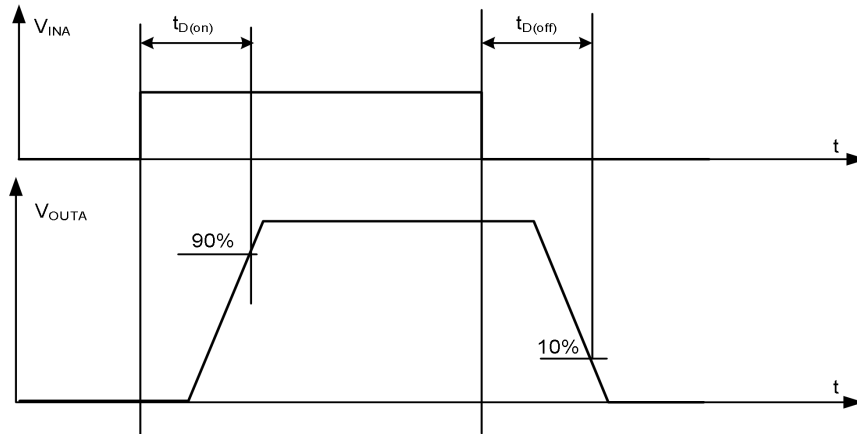

Figure 5. Definition of the high-side switching times
- (1) Parameter guaranteed by design and characterization; not subjected to production test.
- (2) Specifications subject to change without notice.
- (3) See Figure 5.